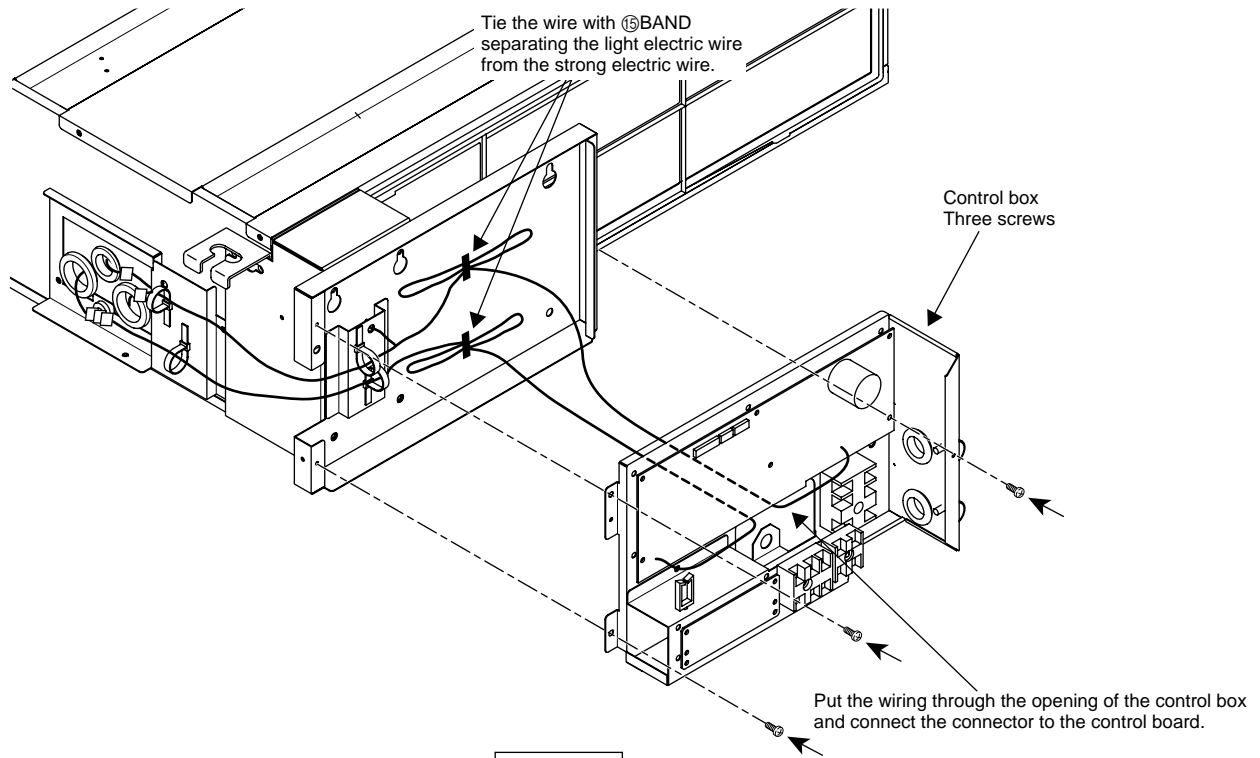

Fig. 14
- (4) Put the wiring through the opening of the control box and connect the wiring to the connector on the control board.(Fig. 14)
- (5) Install the control box to the unit.(Fig. 14)